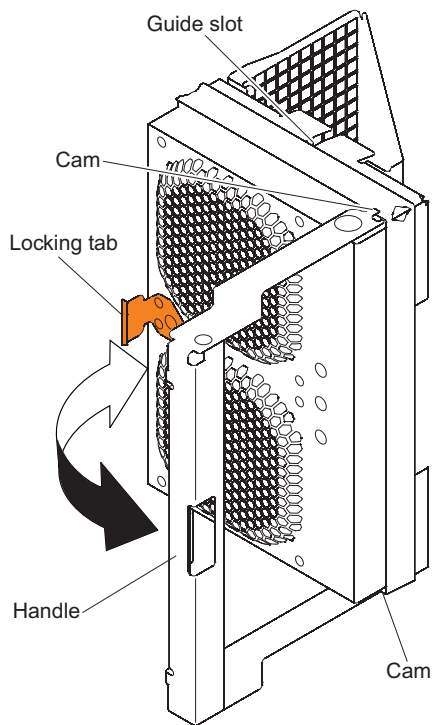

Figure 94. Removing a fan assembly
- a. At the rear of the storage expansion enclosure, remove the fan assembly (see Figure 94 on page 132) by pressing on the locking tab holding the fan assembly handle in place; then, pull the fan assembly towards you.